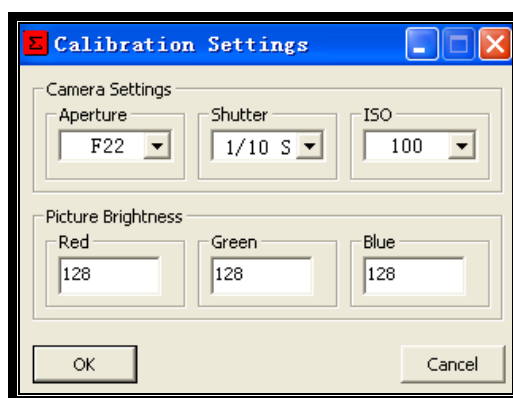

Fig.3-13
Step12: You can set the camera parameters and picture brightness in the window with the title of “Σ Calibration Setting”, as shown in Fig. 3-13. The default settings are usually recommended to use.